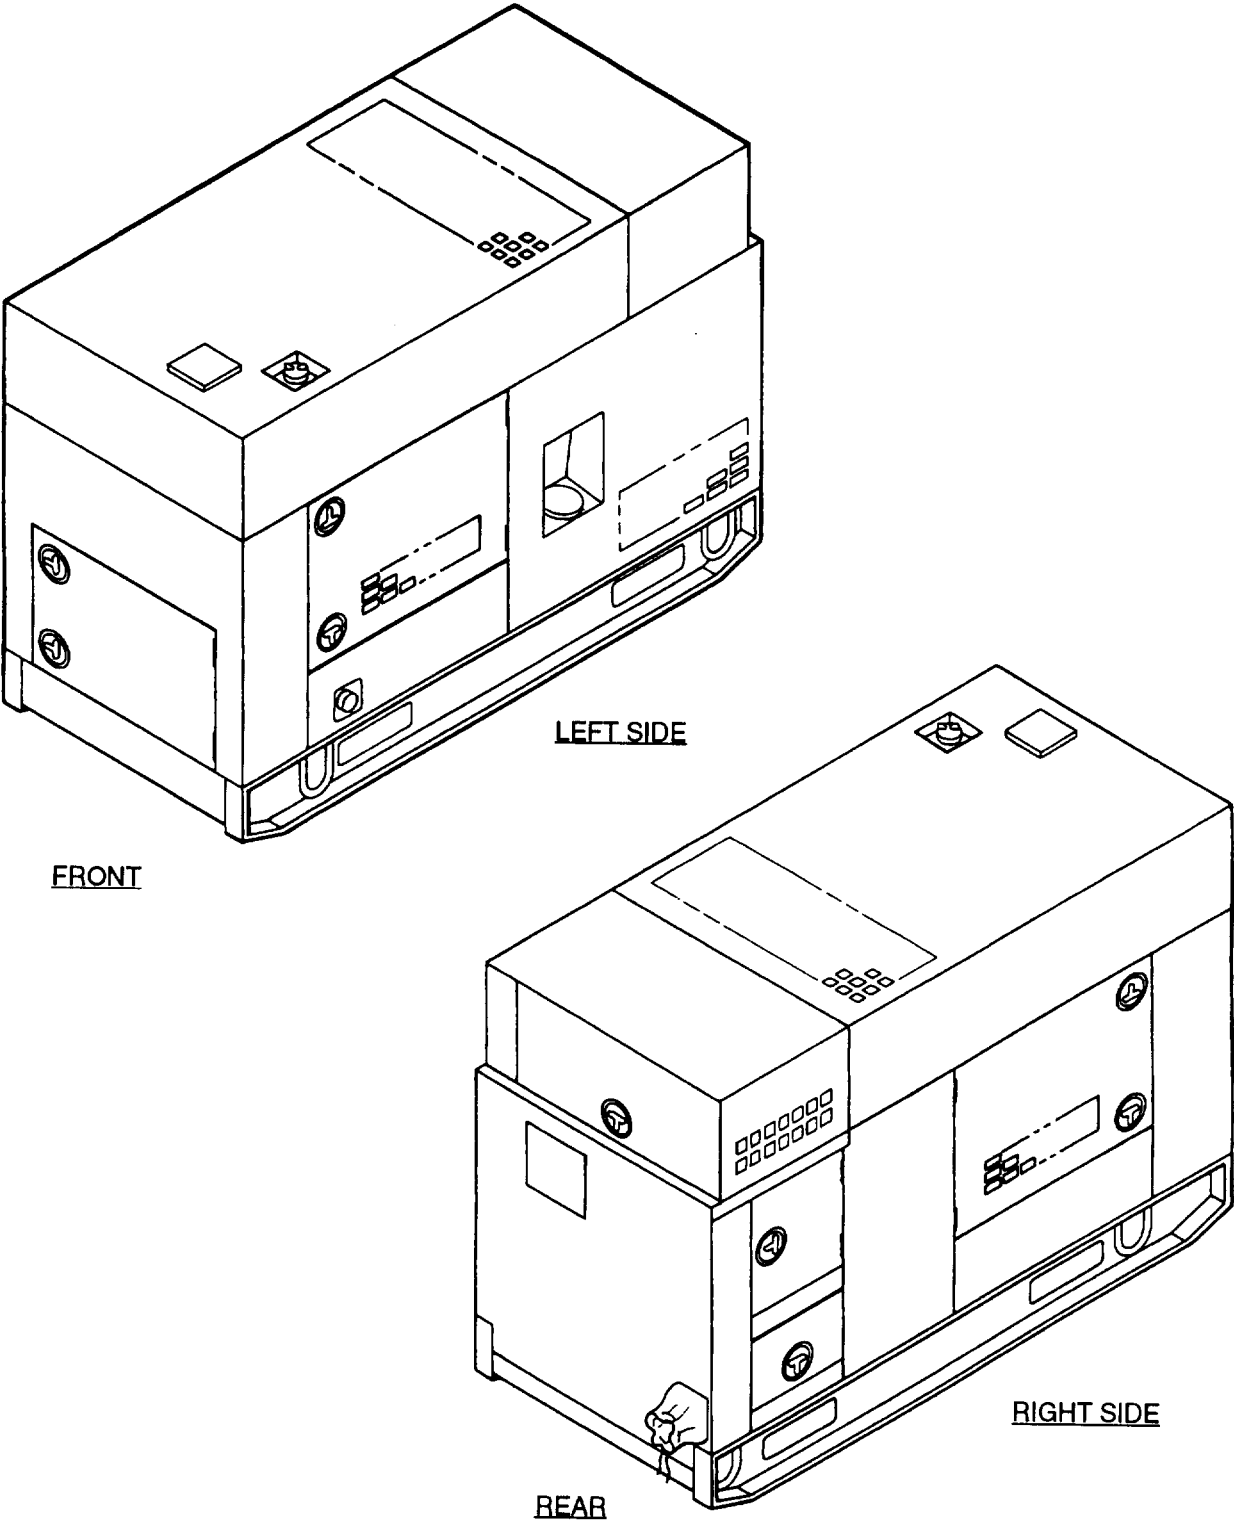

FIGURE 1-1. Generator Set, 15 kw, Tactical Quiet
This manual contains Unit, Direct Support and General Support maintenance instructions for the Tactical Quiet (TQ), 15 kW 50/60 and 400 Hz Generator Sets (FIGURE 1-1), herein referred to as generator sets. Included are descriptions of major components and their functions in relation to other components.
The generator sets, models MEP-804A and MEP-814A, (FIGURE 1-1) are fully enclosed, self-contained, skid-mounted, portable units. They are equipped with controls, instruments, and accessories necessary for operation as single units or in parallel with another unit of the same class and mode. The generator sets consist of a diesel engine, brushless generator, excitation system, speed governing system, fuel system, 24 VDC starting system, control system, and fault system.